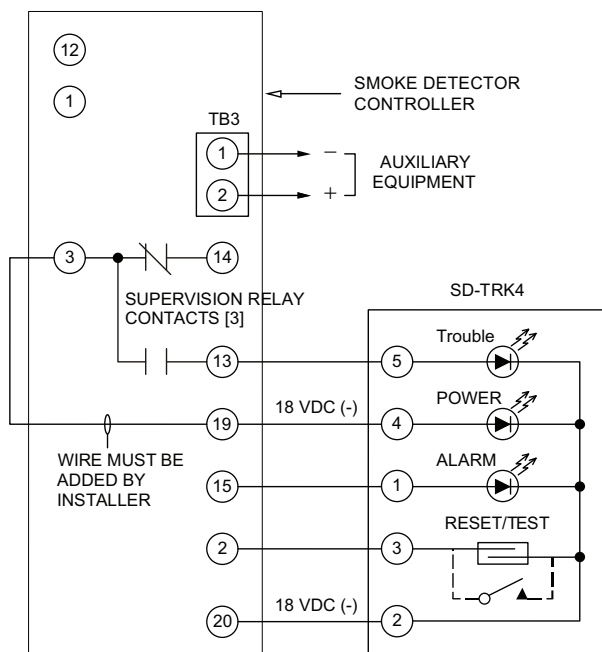

Fig. 25 — Remote Test/Reset Station Connections
The test/reset station dirty sensor test checks the test/reset station's ability to initiate a sensor dirty test and indicate the results. It must be wired to the controller as shown in Fig. 25 and configured to operate the controller's supervision relay. For more information, see "Changing the Dirty Sensor Test."
1. Verify that the remote test/station is wired as shown in Fig. 25. Repair or replace loose or missing wiring.